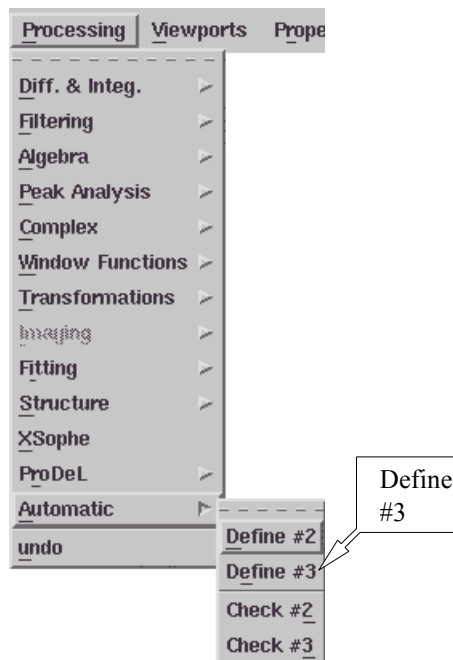

Figure 9-8 Opening the Automatic Define #3 dialog box.
4. **Open the third auto post-processing dialog box.** Click Processing > Automatic > Define #3 to open the dialog box. (See Figure 9-8.)